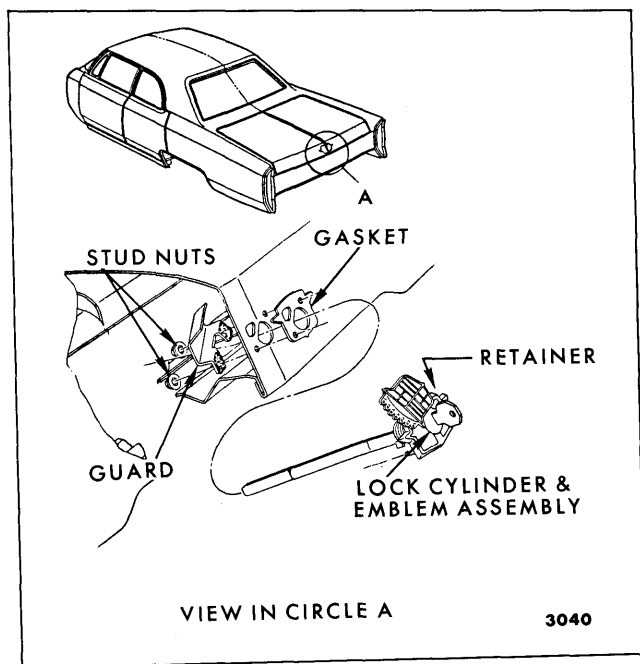

Fig. 8-15—Rear Compartment Lid Lock Cylinder Assembly - All Cadillac Styles
3. Remove guard through access hole, then remove compartment lid emblem and lock cylinder assembly from lid outer panel (Fig. 8-15).